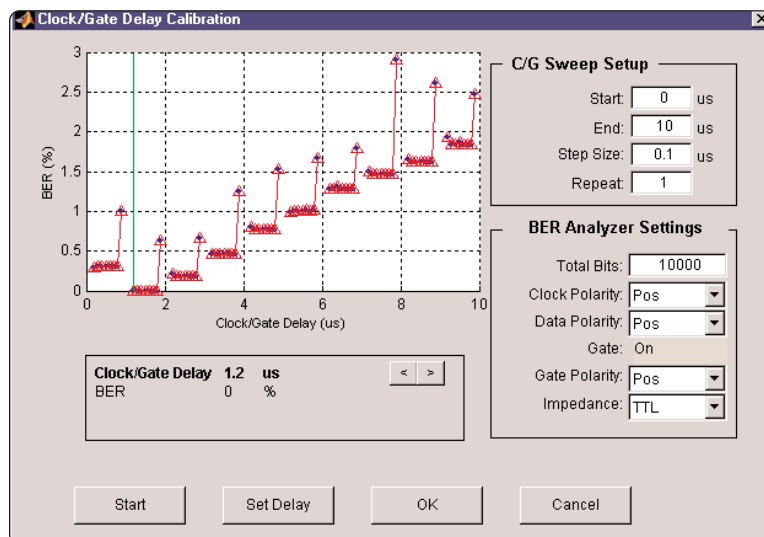

Figure 35. BER vs. Clock/Gate Delay calibration results.
- After the plot has been generated, a marker is automatically placed at the Clock/Gate Delay setting that yields the minimum BER, Figure 35. Notice that the plot looks similar to a step function. With no impairments added to the signal, there is a range of approximately $_$ a symbol period that yields the same BER results. In this case, the marker is placed at the first BER minimum. When impairments are added to the signal, the plot no longer looks like a step function. Instead, it looks like a series of parabolas, from which a true minimum can be found. By initially performing the calibration without impairments added to the signal, the Clock/Gate Delay range for optimum BER can easily be determined. As a result, when later performing Clock/Gate Delay Calibration on an impaired signal, the sweep range can be adjusted accordingly to decrease test time.